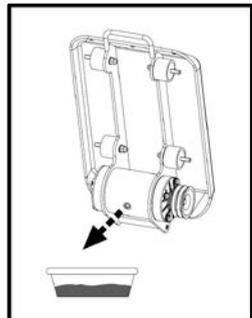

Fig. 11
6. Remove the plug on top of the vibrator housing. Tilt the housing upside down so oil drains from the vibrator (Fig. 11).